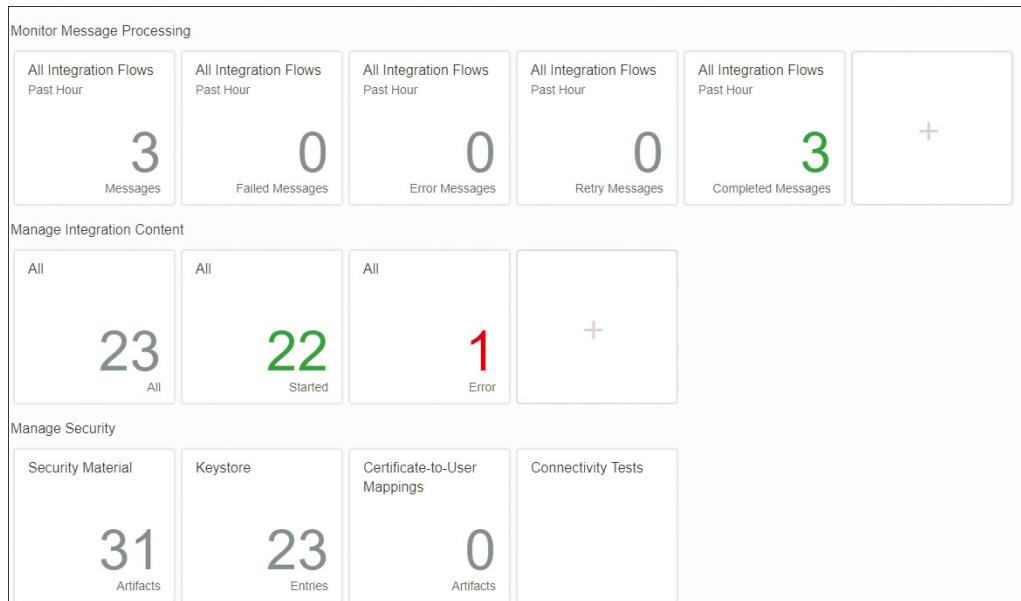

Figure 4.28 Monitoring Homepage
monitoring environment). The monitoring environment's homepage consists of several areas, including **Message Processing Monitor**, **Integration Content Monitor**, **Manage Security**, **Manage Stores**, **Access Logs**, and **Manage Locks**. Some of these monitors can be seen in Figure 4.28. We'll discuss monitoring applications in more detail in Chapter 8.
1. Click on the **Completed Messages** tile in the **Message Monitor** section of Figure 4.28. Note that the tiles can be personalized and configured to your liking. If the tile has been modified in your tenant, there is a chance that it behaves differently than described here.